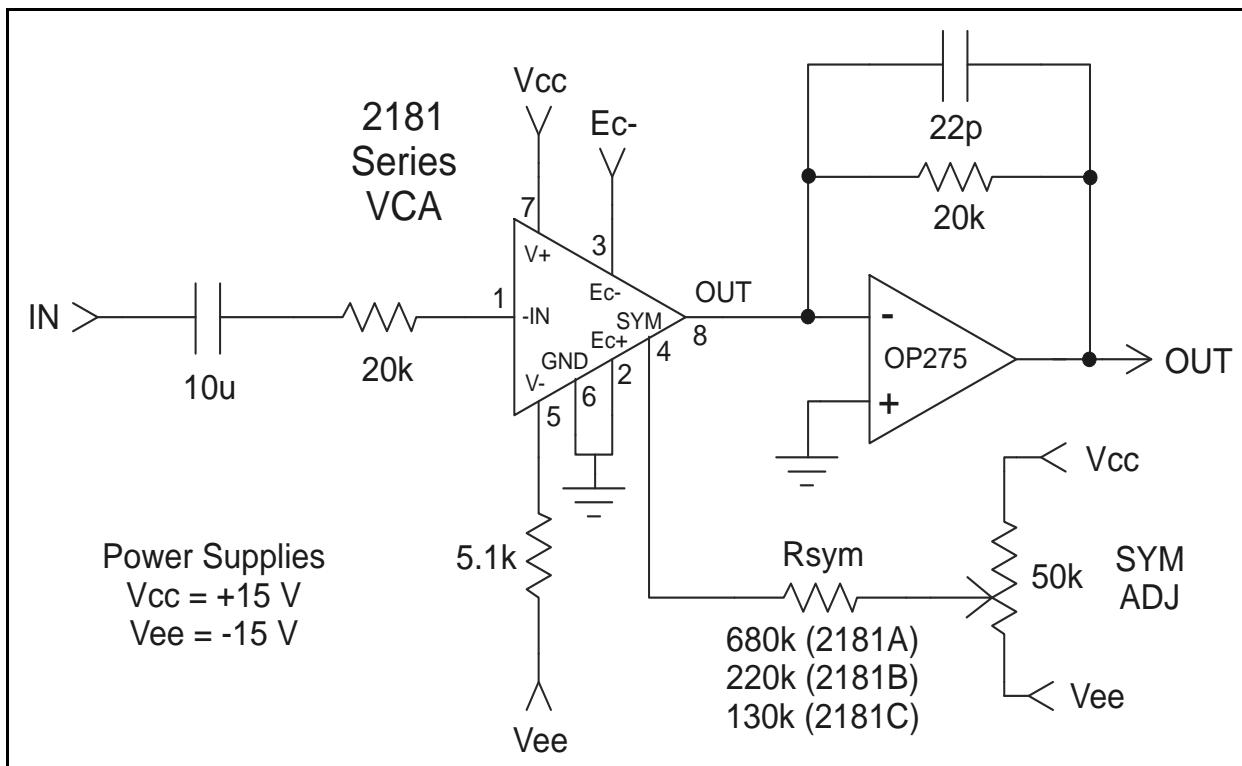
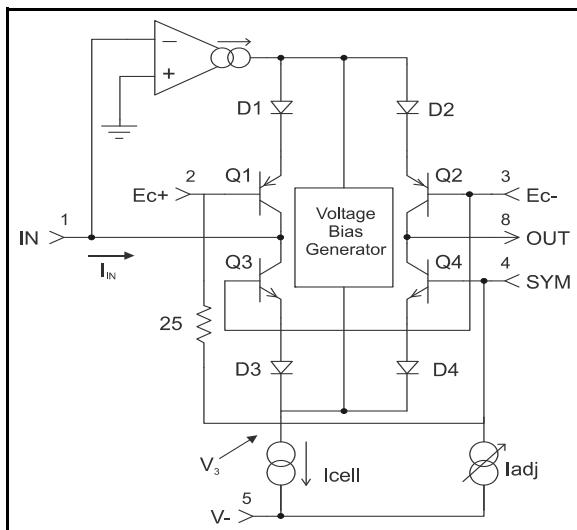
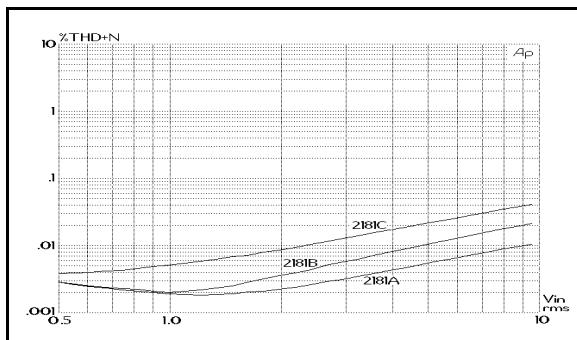
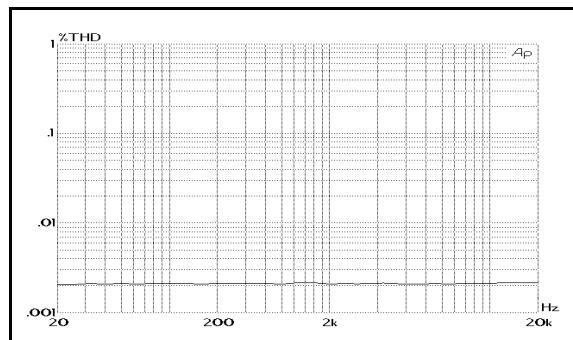

Figure 2. Typical Application Circuit
Figure 5. Simplified Internal Circuit Diagram
Figure 10. 1 kHz THD+N vs. Input Level, 0dB Gain
Figure 13. 2181A THD+N vs Frequency, 0dB gain 1kHz 1V
2. Unless otherwise noted, $T_A = 25^\circ C$, $V_{CC} = +15 \text{ V}$, $V_{EE} = -15 \text{ V}$. Test circuit as shown in Figure 2. SYM ADJ is adjusted for minimum THD at 1 V, 1 kHz, $E_{C-} = -E_{C+} = 0 \text{ V}$.
Figure 5 presents a considerably simplified internal circuit diagram of the IC. The ac input signal current flows in pin 1, the input pin. An internal operational transconductance amplifier (OTA) works to maintain pin 1 at a virtual ground potential by driving the emitters of Q1 and (through the Voltage Bias Generator) Q3. Q3/D3 and Q1/D1 act to log the input current, producing a voltage, V3, which represents the bipolar logarithm of the input current. (The voltage at the junction of D1 and D2 is the same as V3, but shifted by four forward V_{be} drops.)
In normal operation, the output current is converted to a voltage via an opamp-based I-V converter, as shown in Figure 2, where the conversion ratio is determined by the feedback resistor connected between the output and inverting input. The signal path through the VCA and the output opamp is non-inverting.
The 2181 current consumption is determined by the resistor between pin 5 (V-) and the negative supply voltage (V_{EE}). Typically, with 15V supplies, the resistor is 5.1 kΩ, which provides approximately 2.4 mA. This current is split into two paths: 570 μA is used for biasing the IC, and the remainder becomes I_{CELL} as shown in Figure 5. I_{CELL} is furth
The 2181-Series VCAs are intended to be adjusted for minimum distortion by applying a small variable offset voltage to pin 4, the SYM pin. Note that there is a 25 Ω resistor internal to the 2181 between pin 4 and pin 2. As shown in Figure 2, Page 3, the usual method of applying this offset is to use the internal 25 Ω resistor along with a larger value resistor to form a voltage divider connected to the wiper of a trim pot across the supply rails.
The 2181-Series VCA design, fabrication and testing ensure extremely good audio performance when used as recommended. The 2181 maintains low distortion over a wide range of gain, cut and signal levels. Figures 10 through 12 show typical distortion performance for representative samples of each grade of the part. At or near unity gain, the 2181 behaves much like a good opamp, with low distortion over the entire audio band. Figure 13 shows typical THD for a 2181A over frequency at 0 dB gain, with a 1 V input signal, while Figure 14 details the harmonic content of the distortion in a typical A-grade part.
The Input pin (pin 1) is a virtual ground with negative feedback provided internally (see Figure 5, Page 4). The input resistor (shown as 20 kΩ in Figure 2, Page 3) should be scaled to convert the available ac input voltage to a current within the linear range of the device. Generally, peak input currents should be kept under 1 mA for best distortion performance.
Refer to Figures 10 through 12 to see how distortion varies with signal level for the three parts in the 2181 Series for 0 dB, +15 dB and -15 dB gain. The circuit of Figure 2, Page 3 was used to generate these curves.
A designer may trade off noise for distortion by decreasing the 20 kΩ current-to-voltage converting resistors used at the input and output in Figure 2, Page 3. For every dB these resistor values are decreased, the voltage noise at the output of the OP275 is reduced by one dB. For example, with 10 kΩ resistors, the output noise floor drops to -104 dBV (typical) at 0 dB gain — a 6 dB reduction in noise because 10 kΩ is 1/2 of (6 dB lower than) 20 kΩ.
The Output pin (pin 8) is intended to be connected to a virtual ground node, so that current flowing in it may be converted to a voltage (see Figures 2 & 15). Choose the external opamp for good audio performance. The feedback resistor should be chosen based on the desired current-to-voltage conversion constant. Since the input resistor determines the voltage-to-current conversion at the input,
The SYM pin (pin 4) is actually a sort of additional positive-sense control port. It is provided to allow V_{be} mismatches in the core transistors to be adjusted after packaging and installation in the circuit board. It should only be used for this purpose. Connect pin 4 only to a high-impedance source as shown in Figures 2 and 15.